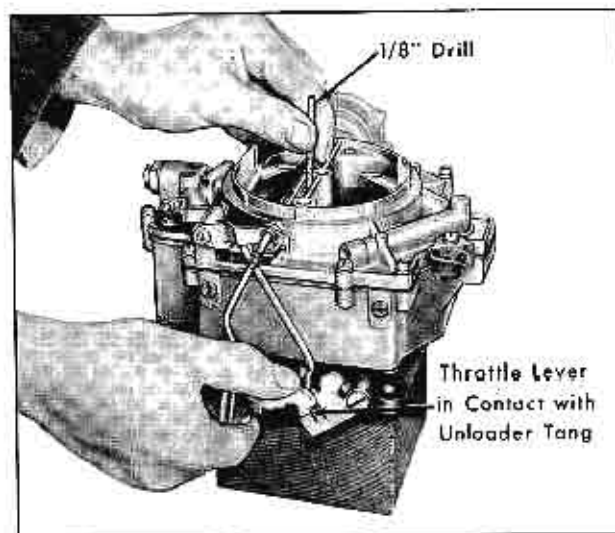
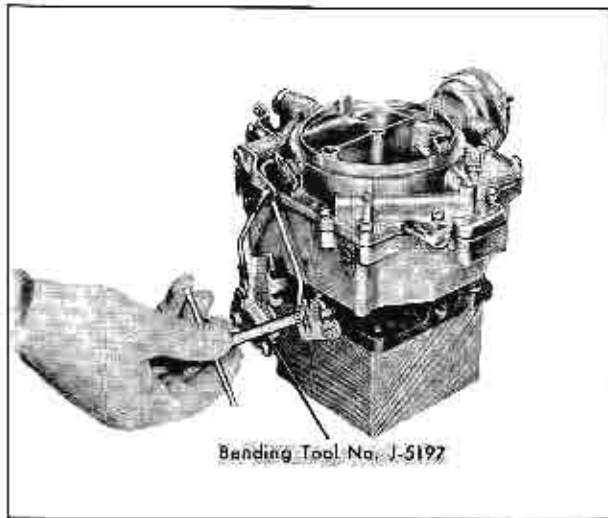

Fig. 12-23 Unloader Adjustment
Fig. 12-24 Bending Unloader Tang
2. Hold in this position and carefully bend tang of fast idle cam to obtain a clearance of .125", as measured with a 1/8" drill, between the top edge of the choke valve and the dividing wall in the air horn, Fig. 12-23. Use Bending Tool No. J-5197 as shown in Fig. 12-24.